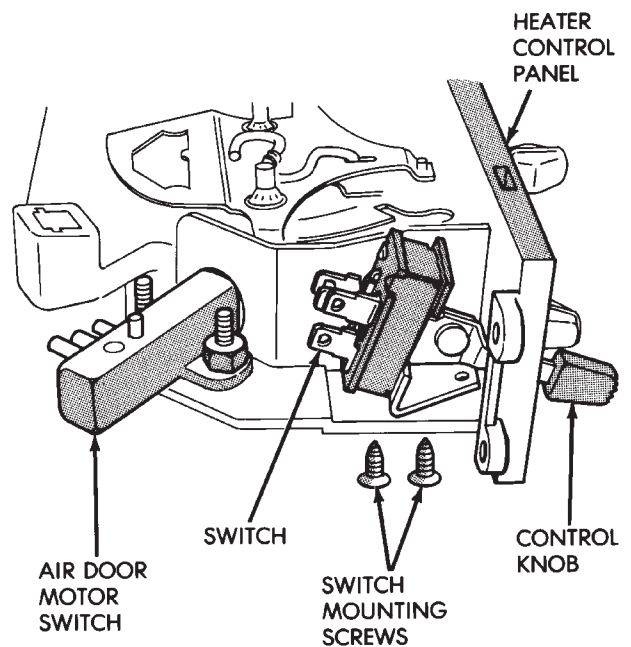

Fig. 2 Control Switches
(1) Remove heater control panel (Fig. 2).
(2) Remove air door motor switch.
(3) Remove control knob from the blower switch.
(4) Remove screws that attach the switch to the control panel.
(5) Remove switch from the control panel.